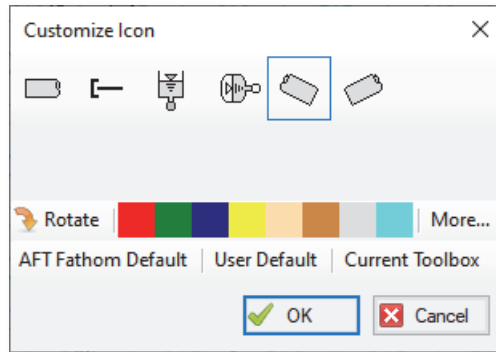

Figure 3.10 Use the Rotate button to obtain the preferred icon and rotation
9. Right click on J12 and select Customize Icon. Notice that you may need to use the Rotate button to get the preferred icon and rotation, as shown in Figure 3.10.